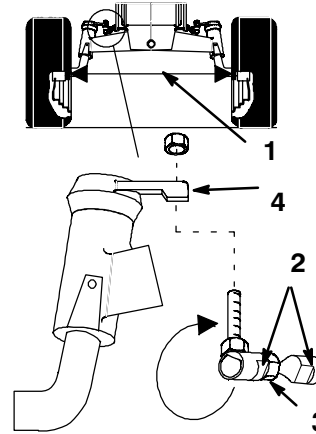

Figure 32
Maintain toe-in of the front wheels as specified. If uneven tire wear, lawn scuffing or hard steering develop adjustment may be required. Check the toe-in after every 100 operating hours or yearly, whichever occurs first (Fig. 32).
3. Measure, between the rims, at spindle level, in the front and rear of the wheels (Fig. 32).
2. Remove ball joint from one steering lever (Fig. 32).
4. Hold flats on ball joint to align with flats on tie rod and tighten jam nut (Fig. 32).